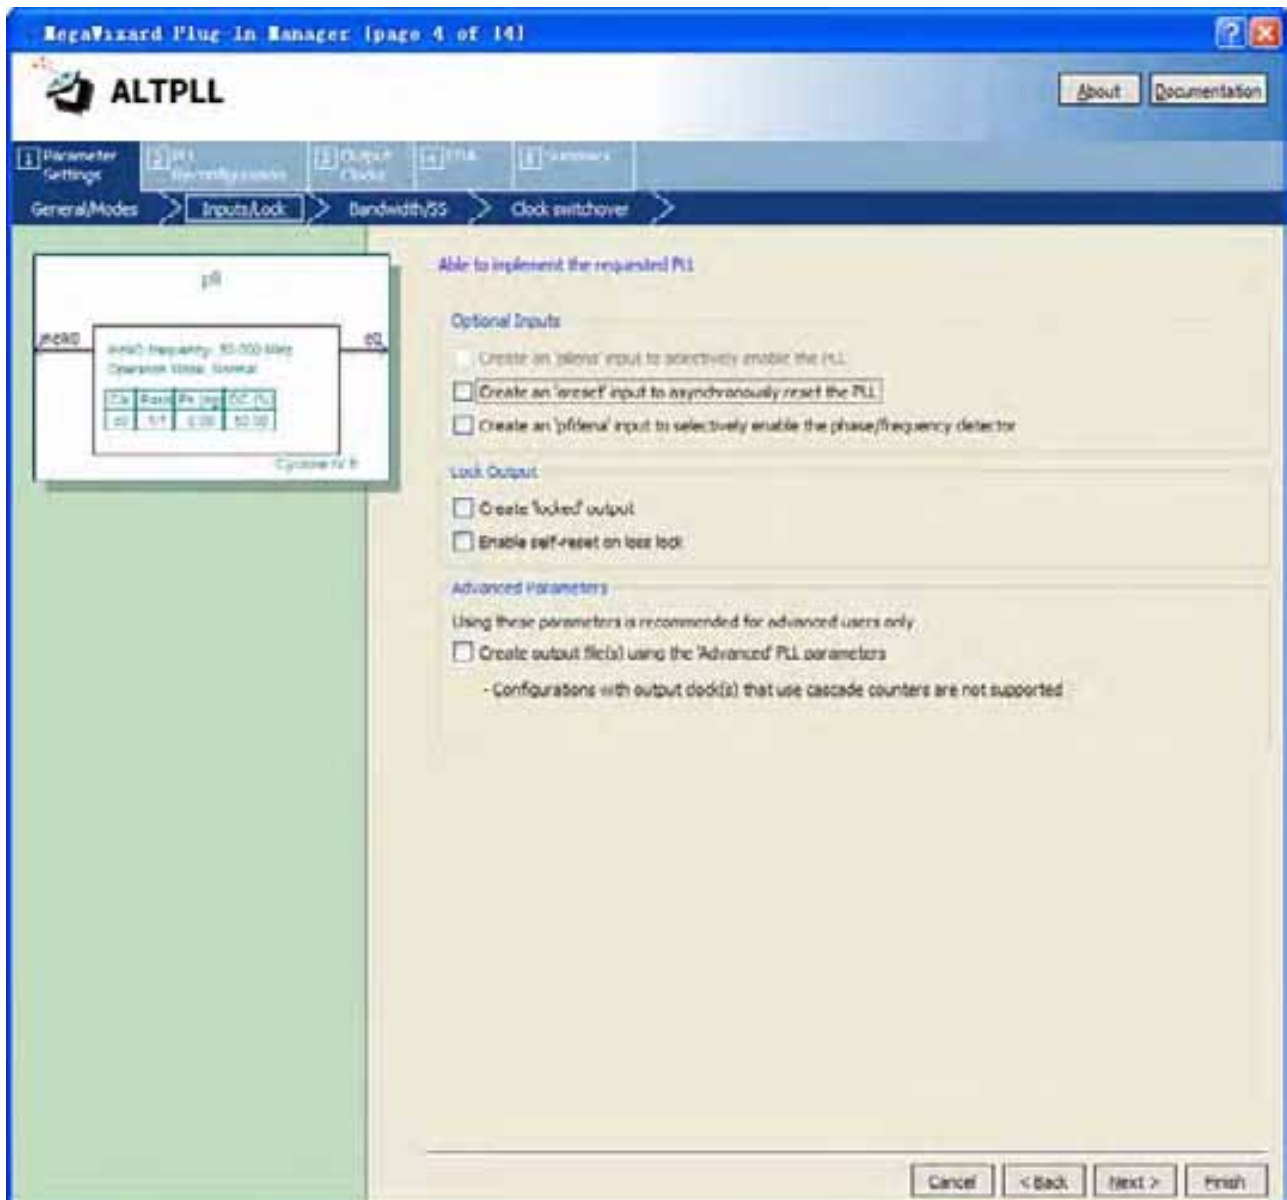

Figure 6-22 MegaWizard Plug-In Manager [page 4 of 14] Selections
6. Unselect all options on MegaWizard page 4. As you turn them off, pins disappear from the PLL block's graphical preview. See Figure 6-22 for an example.